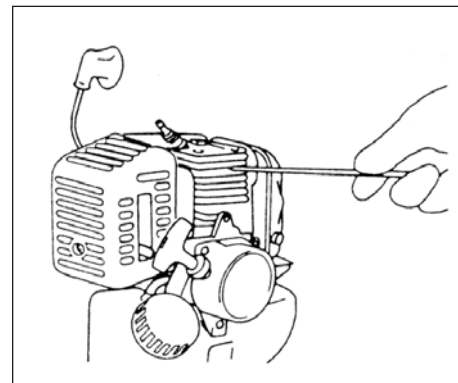

Fig.3-4B
**Cylinder (Engine cooling) (Fig. 3-4B)**